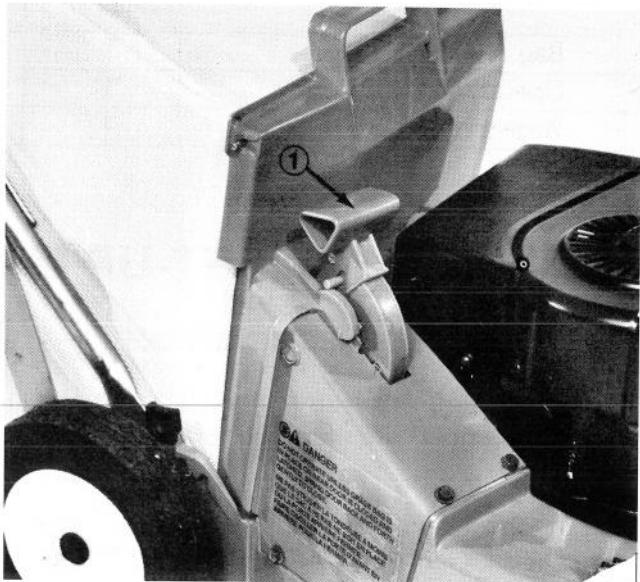

Figure 6
4. Rotate mulching door handle upward to open discharge chute and lock bag in place (Fig. 6).